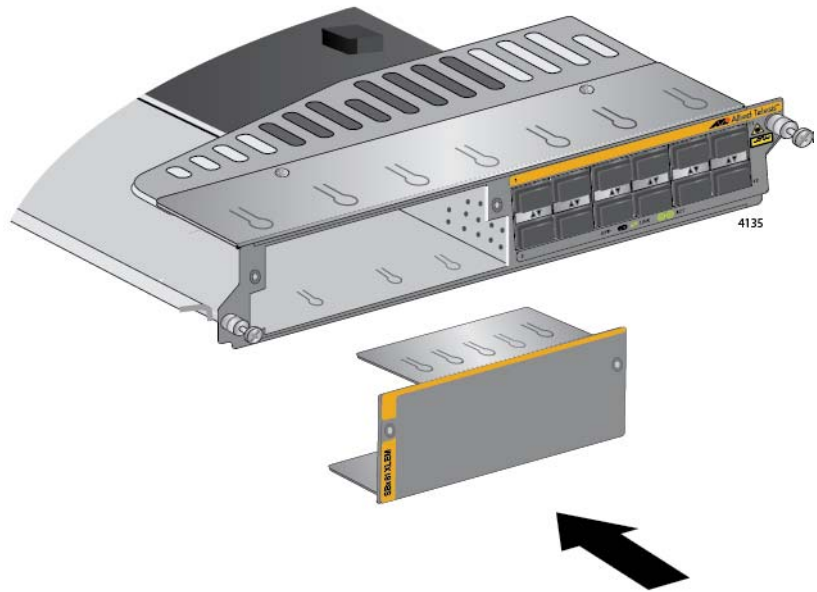

Figure 174. Sliding the Blank Slot Cover into the AT-SBx81XLEM Line Card
9. Slide the blank slot cover that comes with the line card into the slot on the card. Refer to Figure 174 on page 275.